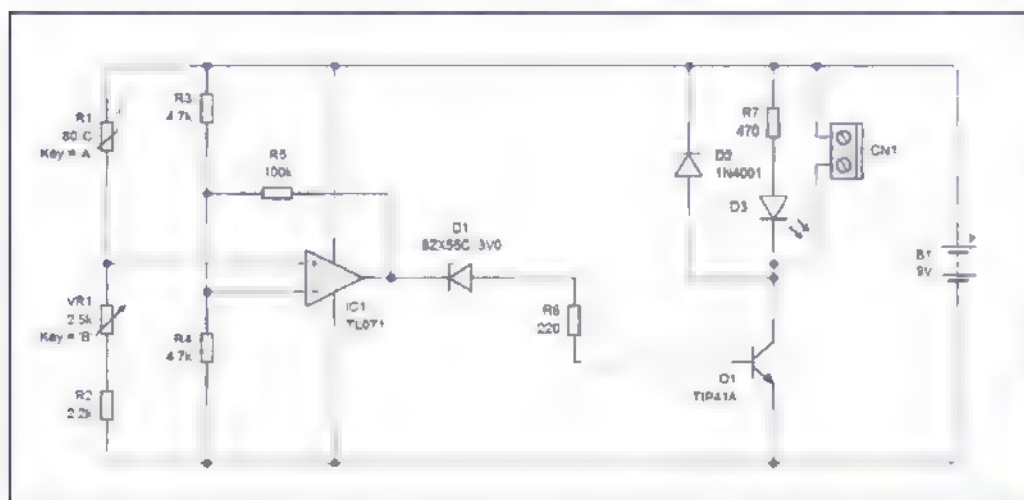

Fig.18. Final practical circuit schematic
**N**OW it's time to put our theory into practice and create our operational unit. Our final circuit is shown in Fig.18. As you can see, we used the same operational amplifier arrangement as we discussed previously, with a TL071A as our output driver stage. This device can support a collector current of up to 6A; more than adequate to drive a DC fan, buzzer, actuator, lamp or relay output.